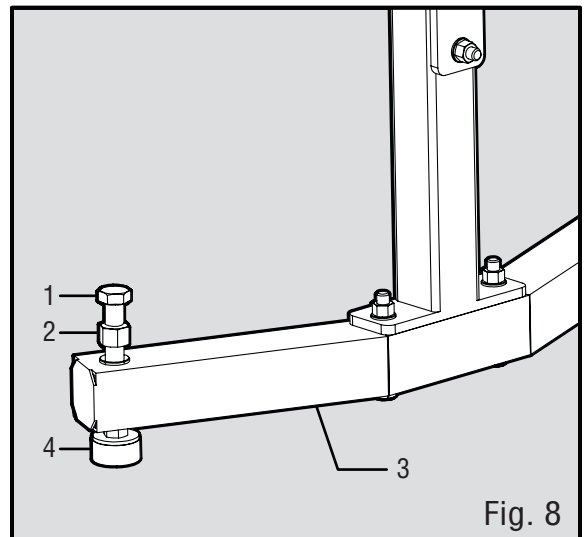

Fig. 8
LEVELING THE LATHE STAND (FIG. 8)
1. On the base (Fig. 8 - 3), loosen the foot's locking M12 hex nut (Fig. 8 - 2) that is set on the M12x100 hex bolt (Fig. 8 - 1). An adjustable wrench is required.
2. Adjust the leveling M12x100 hex bolt (Fig. 8 - 1) and foot (Fig. 8 - 4) to the desired height, leveling the stand.
3. Once set, tighten down the locking M12 hex nut (Fig. 8 - 2) to retain the adjustment.